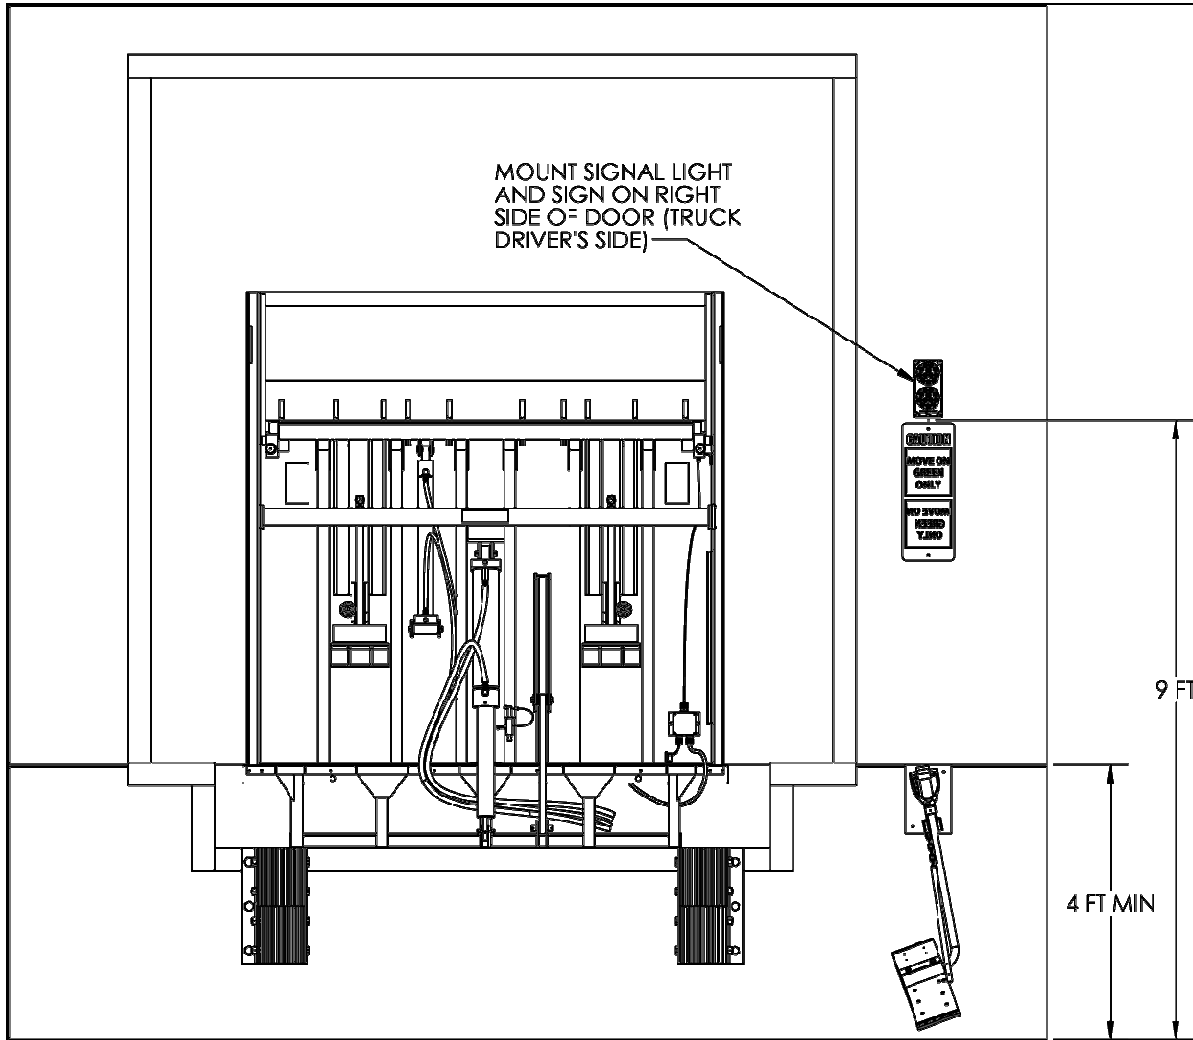

Figure 6: Typical Mounting Station, Outside Light and Sign Placement
2. The dock face on which the Dok-Chock™ Mounting Station is to be mounted must be flat, vertically plumb and a minimum of 48" tall (refer to Figure 6 below).
3. The outside signal light is to be placed approximately 9 ft above the driveway on the driver's side of the door opening as shown in Figure 6 above. Drill a hole through the wall at the centre of the signal light mounting position.
6. Mount the "Move On Green Only" sign provided to the exterior wall under the signal light as shown in Figure 6 above.